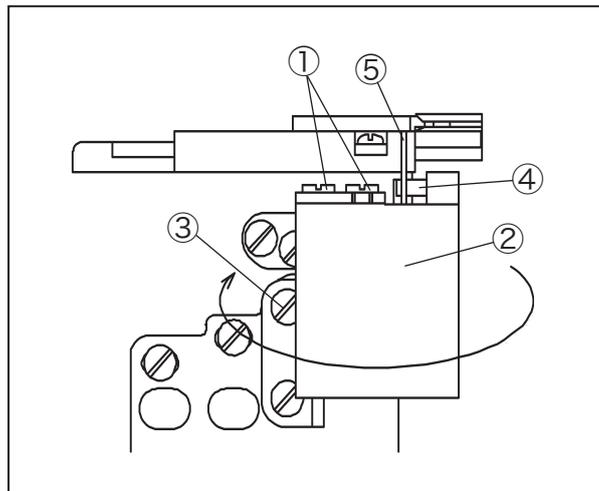

Fig. 4-3
- (1) Loosen the screws ① and turn the solenoid cover ② in the arrow direction. (See Fig. 4-3)
- (2) When the stitch plate tongue is out, loosen the screw ⑥ and move the stitch plate tongue arm ⑦.
- (3) When the tongue is out from the stitch plate by 6 mm, tighten the screw ⑥ securely.